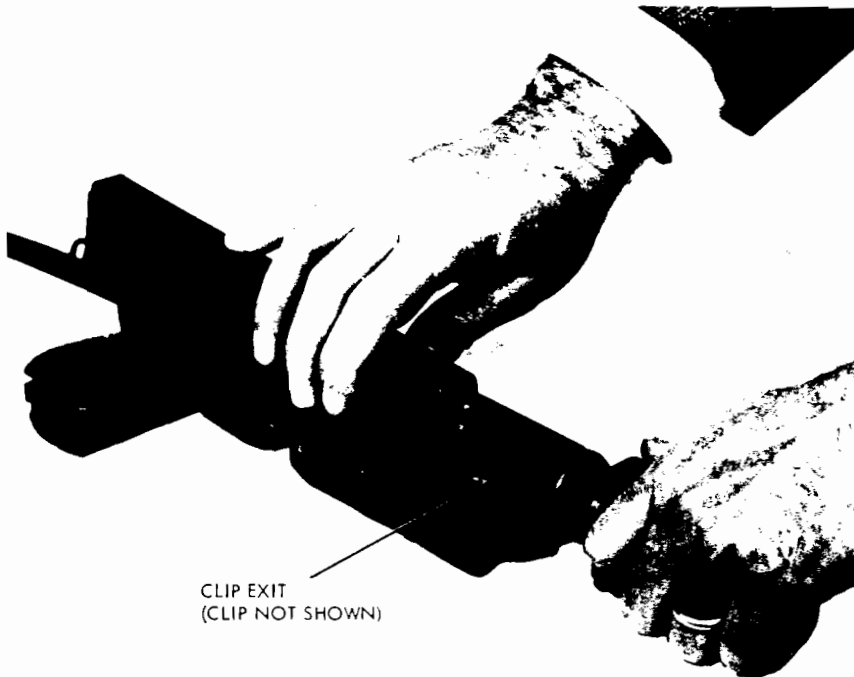

Figure 25. Using magazine filler to load magazine.
a. Load a magazine by using the technique described in paragraph 27a, or, if clipped ammunition is available, place a clip, bullets up, on the magazine filler. Place the magazine on the filler, with the rib on the rear wall of the magazine in the slot in the filler. Press the magazine forward (fig. 25). This will strip the cartridges off the clip and into the magazine; at the same time, the clip will be driven out of the clip exit. Repeat until the magazine is full.